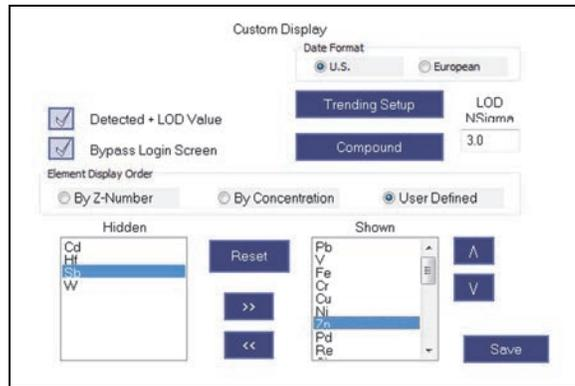

Figure 1-47 Defining a new display order
1. Select **User Defined** (see Figure 1-47 on page 38).